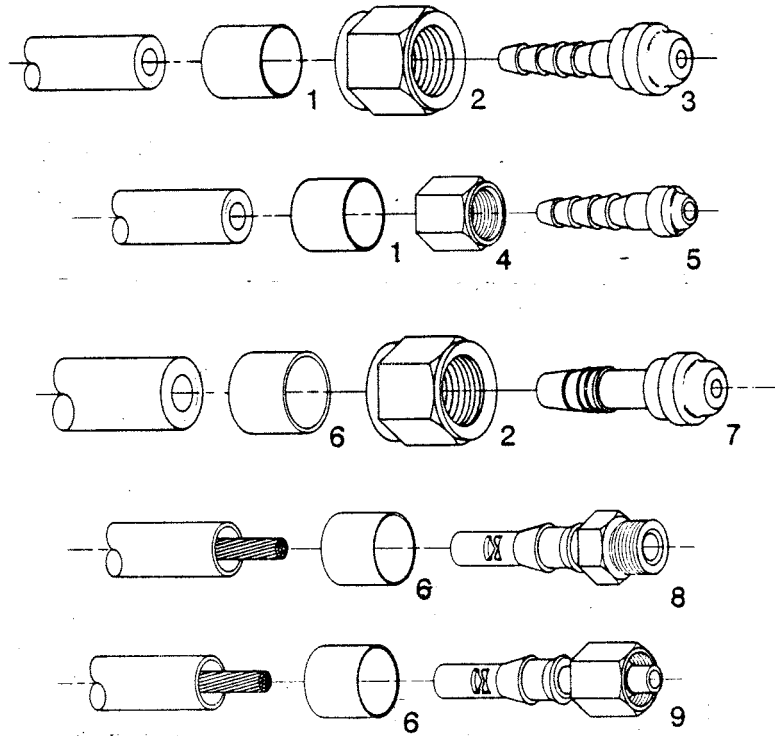

Figure 5-3 4A Torch Leads and Hose Fittings
- Fig. 5-3 4A Torch Leads Assembly